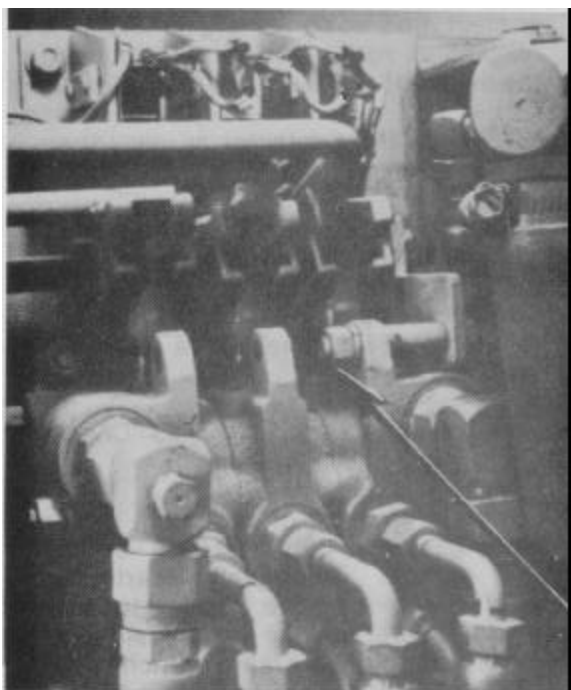

Figure 3-18
3.46.6 Tighten the two 3/8-16 hex bolts and nuts that attach the handle pivot shaft support plates to the stack valve body. The two bolts and nuts are located at the right end of the stack valve (Fig. 3-18).
Tighten both bolts with 9/16 inch wrenches. The arrow in figure 3-18 indicates one of the two bolts to be checked and tightened. No motion of this shaft support plate is acceptable when the control handles are operated.